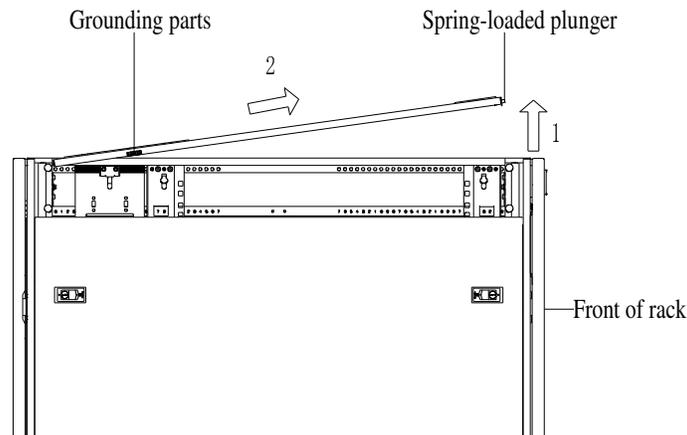

Figure 3-10 Disassembly of Top Cover
2. Pull the top cover upwards from the front of the frame, as shown in Figure 3-10.